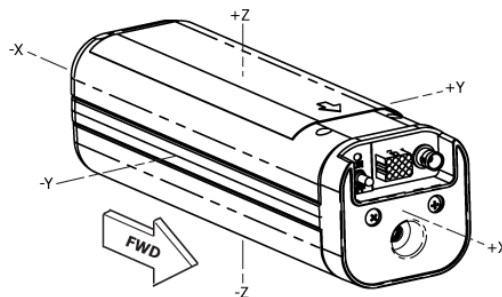

Figure 8 ELT Orthogonal Axes
NOTE: The fixed wing G-switch is triggered by approximately 2.3 Gs of deceleration (axis +X in Figure 8), whereas the five-axis G-switch is triggered by 12.5 Gs of deceleration (axes -X, -Y, +Y, -Z, and +Z in Figure 8), and requires a significant force to activate. The higher G-rating precludes inadvertent activation in helicopter applications but will allow for activation during a mishap.
- 4) Utilizing the sturdy padded surface, hold the ELT 10 inches (26.1 Centimeters) above the test area and thrust down forcefully maintaining a level axis into the pad to test the -X axis (see Figure 8).
- 5) Repeat step 2 for the -Y, +Y, -Z, and +Z axes (see Figure 8).